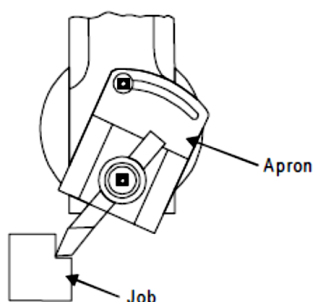

Fig. 23.8 Machining vertical surface on shaper
2. Machining vertical surface (Fig. 23.8)